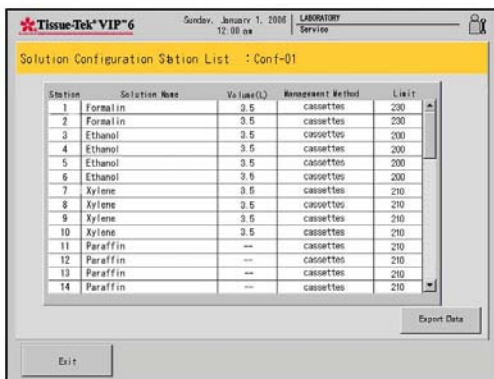

Figure 3-WW
- Touch **View as a List** to view the solution configuration as a list (Figure 3-WW).